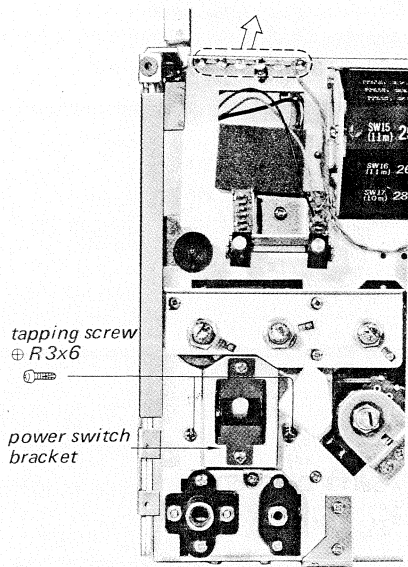

Fig. 2-20
4. Remove the two screws shown in Fig. 2-20.